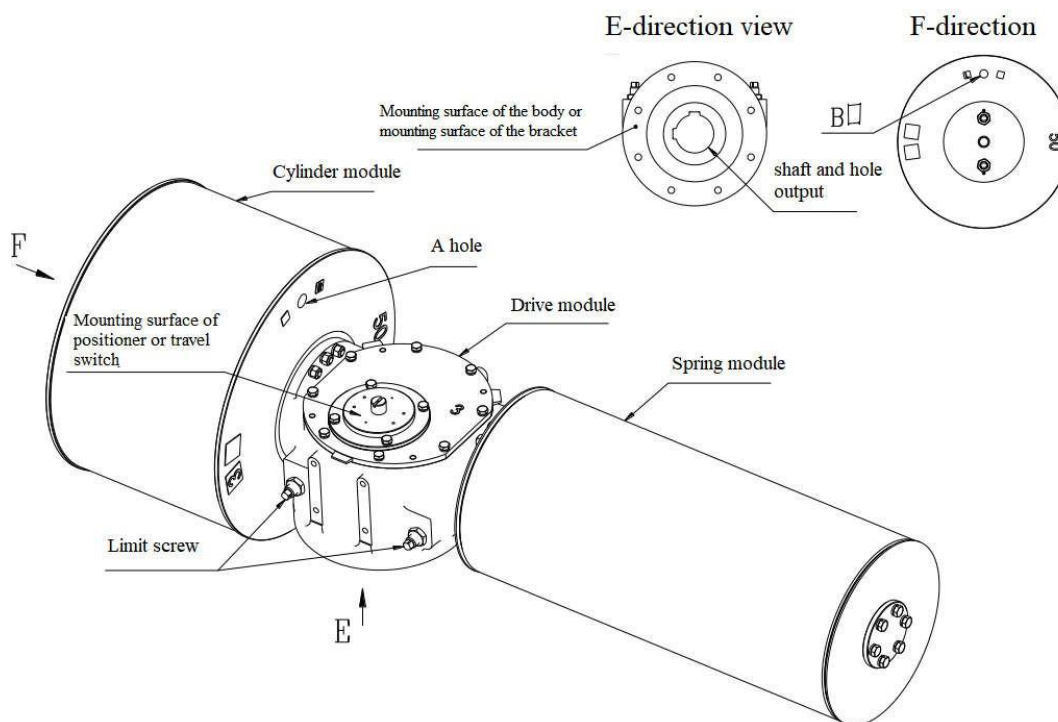

Figure 1 Actuator of the spring return of VTS Series
The cylinder module is moved to one side by the air from Hole A (see Figure 1), which makes the fork shift and drive the module to rotate, and at the same time compresses the spring in the other side spring module, so that the actuator outputs torque.
By rotating the limit screw (see Figure 1), the start and end positions of the fork can be adjusted when rotating, as a result of limit of the entire travel.
Connect the mounting surface of the actuator to the body (see the mounting surface in Figure 1. Make sure that the bolts used are not below grade 8.8 of the steel to ensure sufficient friction between the mounting surfaces, refer to Table 3 for the tension torque of the bolt.
After the actuator and valve (or other equipment) are installed, Intake A (see Figure 1) activates the actuator, and then the open and closed positions of the valve will be adjusted by rotating the limit screw (see Figure 1).
Note: (1) In the operation of the actuator, it is necessary to keep the Hole B (see Figure 1) unobstructed.
(2) The actuator must not exceed the maximum allowable operating pressure (see the nameplate);
(3) If the actuator has a manual over-ride, make sure it is not engaged (see 3.3 operation of manual mechanism).